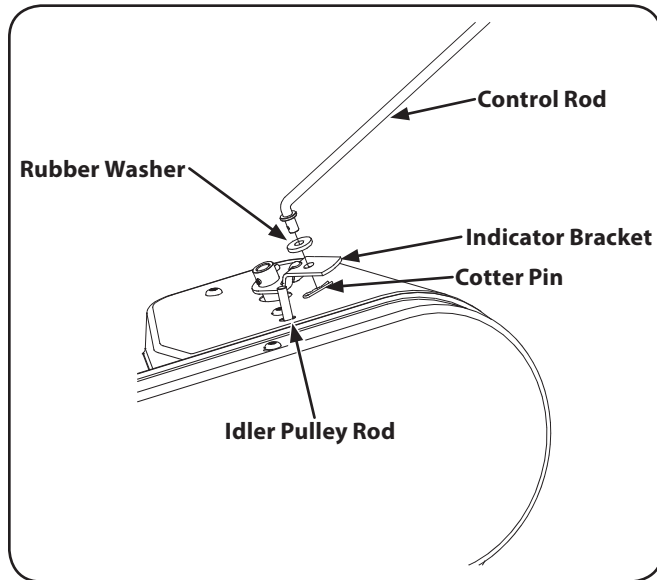

Figure 3-5
3. Insert the shorter, angled end of the control rod through the indicator bracket on the shift cover and secure it with the previously removed hairpin clip. See Fig. 3-5.